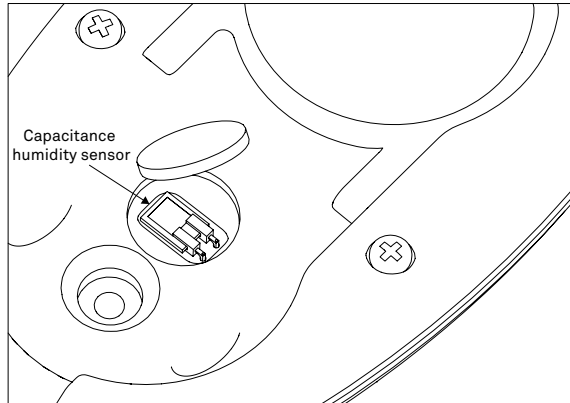

Figure 17 Capacitance humidity sensor
2. Be careful of the capacitance humidity sensor (Figure 17) when placing the new filter. Use gloves to handle the filters as finger oils can be transferred to the filter and contaminate the filter.